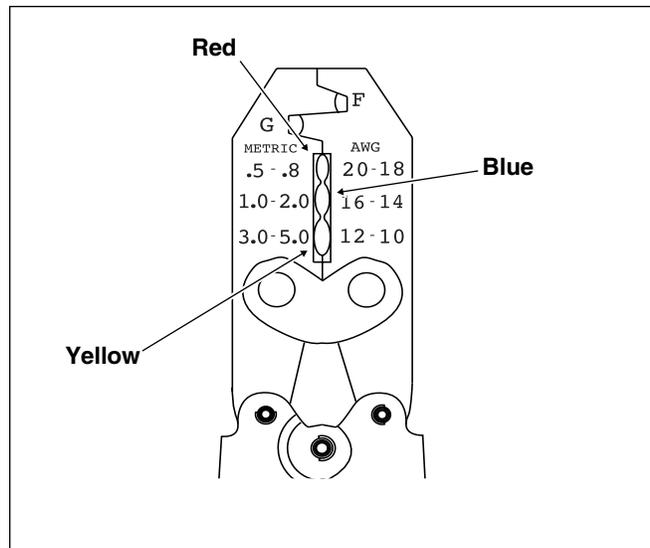

Figure B-39. Packard Crimp Tool (HD-38125-8)
4. Determine the correct die or nest for the crimping operation. Match the color or gauge wire marked on the butt splice connector with the corresponding crimp cavity on the crimp tool. See Figure B-39.